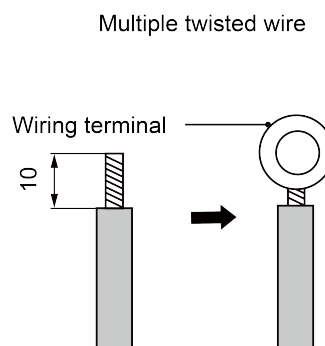

Fig.5.1.2
(2) The connection of stranded wire (as shown in Fig.5.1.2).